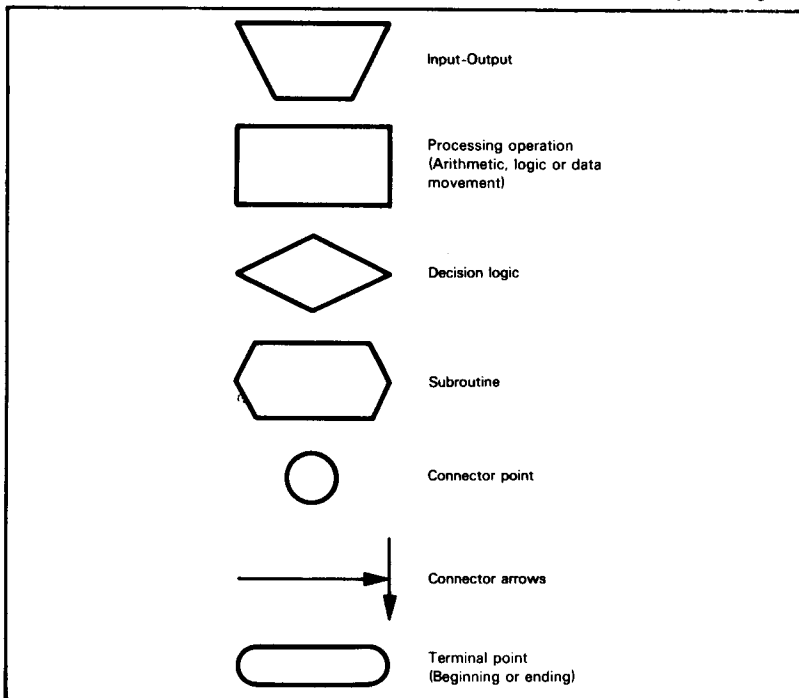

Figure 13-7. Standard Flowchart Symbols
- 1) Standard symbols exist (see Figure 13-7) so that flowcharting forms are widely recognized.